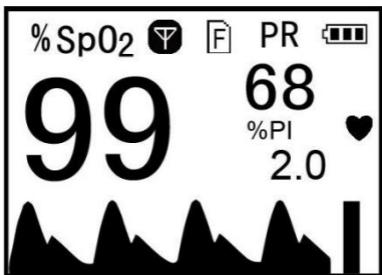

Figure 3.4 SpO₂ measuring screen display
5. The Watch will automatically start measurement in 2 seconds when finger is inserted. The display screen is as shown in figure 3.4. User can read the values and view the waveform from the display screen.